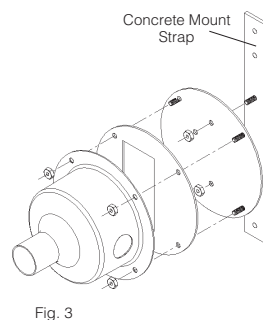

Fig. 3
- Attach the concrete mount strap to the cover plate as shown in Fig. 3.